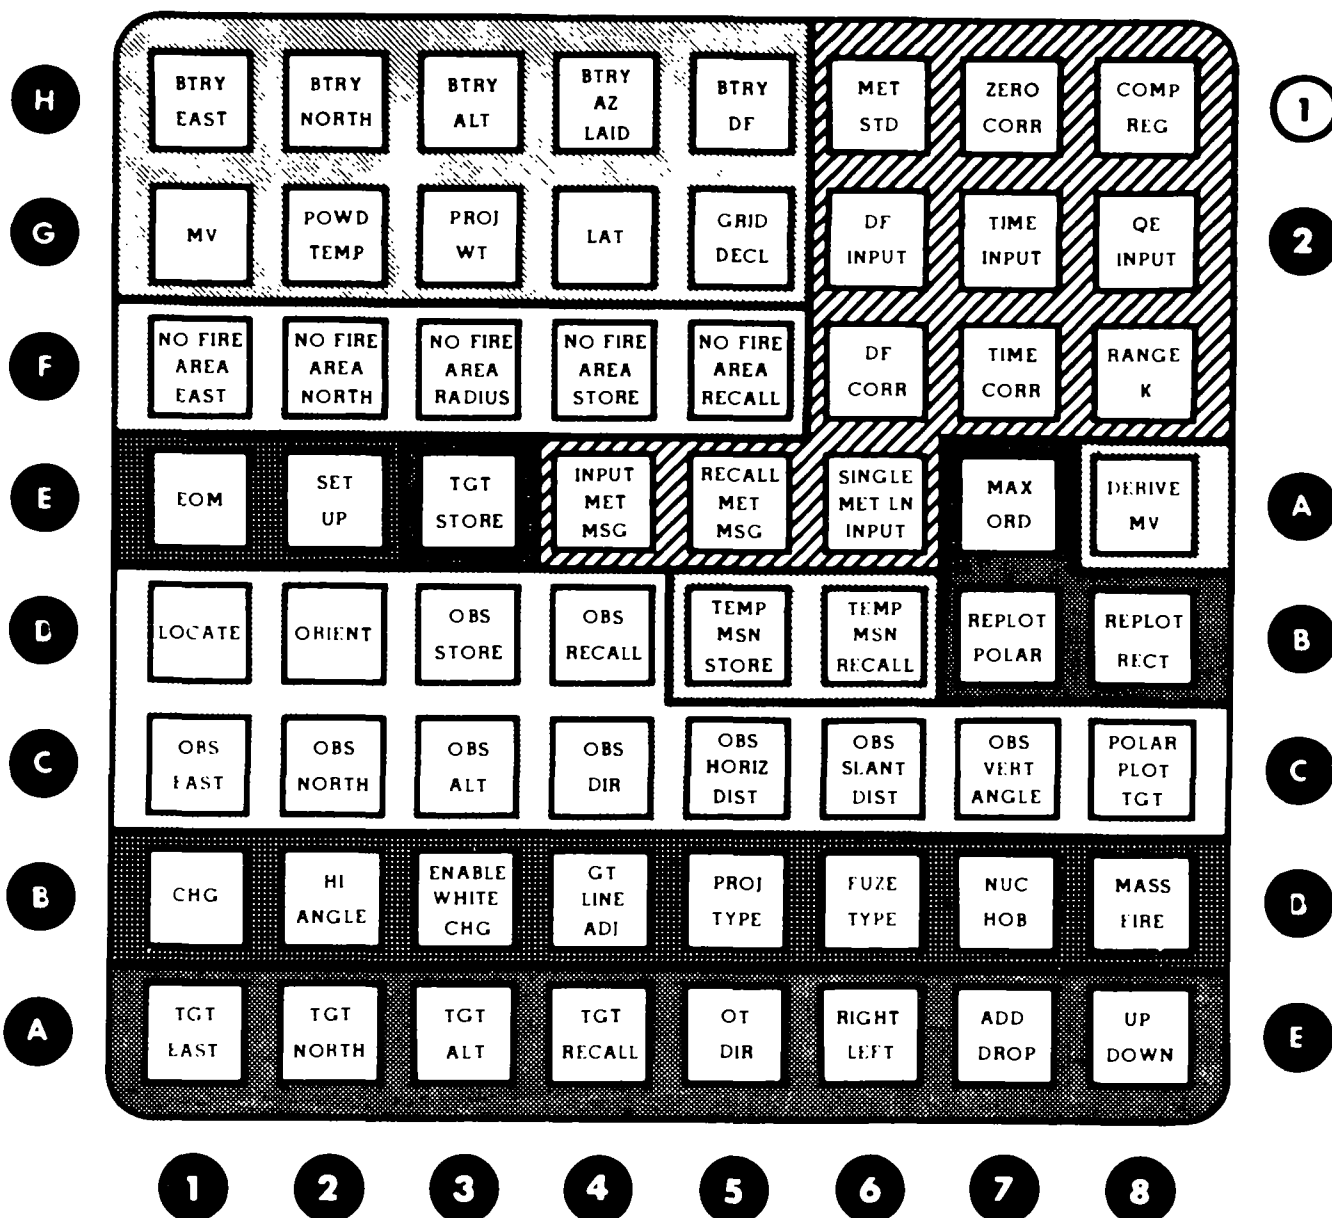
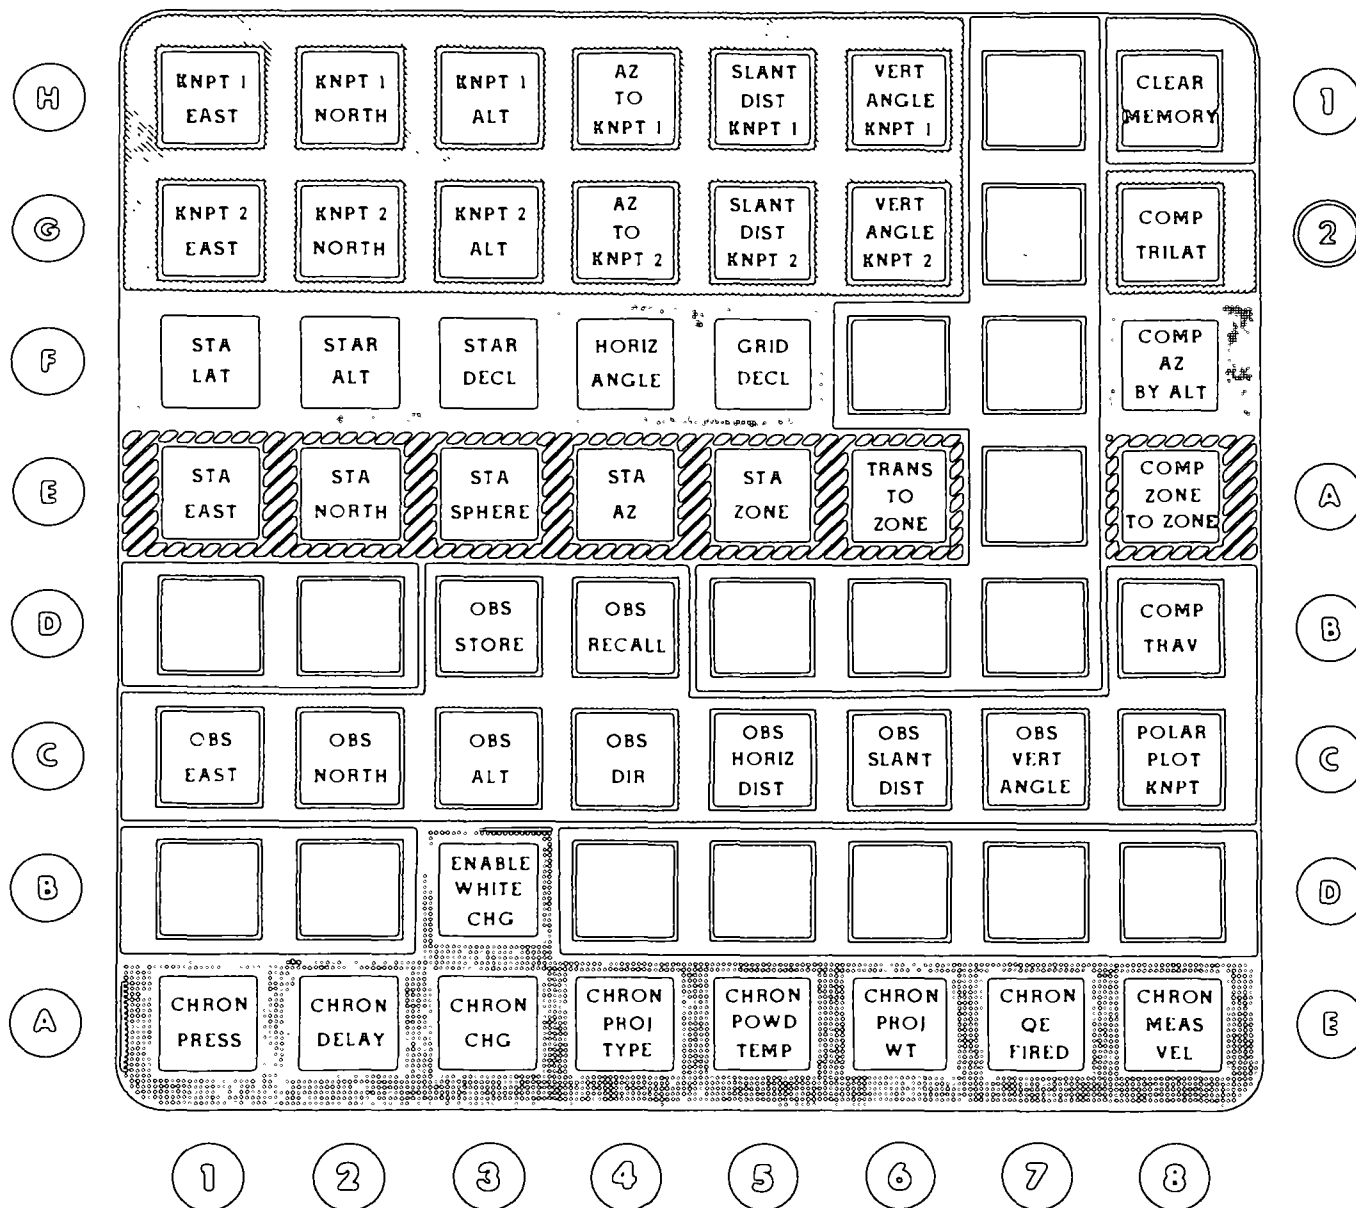

Figure G-1. Matrix overlay.
Figure G-2. Matrix overlay 2.
a. The operator controls described in paragraphs 2-8 through 2-12 for the Revision 4 program are the same for the Revision 5 program except for the numbered buttons, 1 and 2. In the Revision 5 program, these two buttons are used to designate which input selection matrix overlay is being used. Matrix overlay number 1 (fig G-1) is used when matrix selector button number 1 is depressed; matrix overlay number 2 (fig G-2) is used when matrix selector button number 2 is depressed.